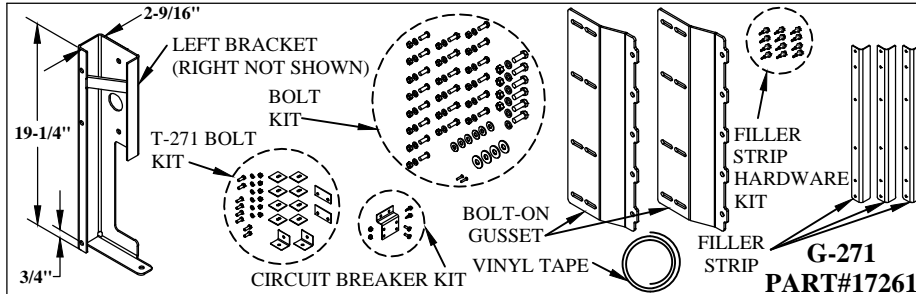

Figure 1: G-271 Part Identification.
2. Verify mounting bracket kit (Figure 1 and Table 1).